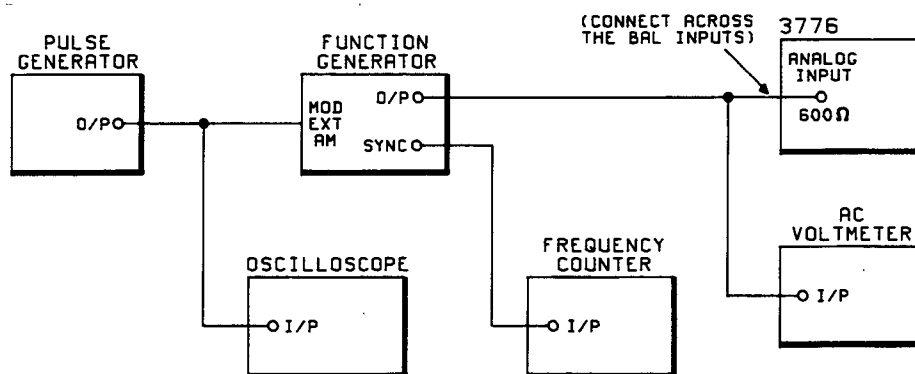

Figure 4-47 Threshold Accuracy Test Set-up
1. Connect up the equipment as shown in Figure 4-47.